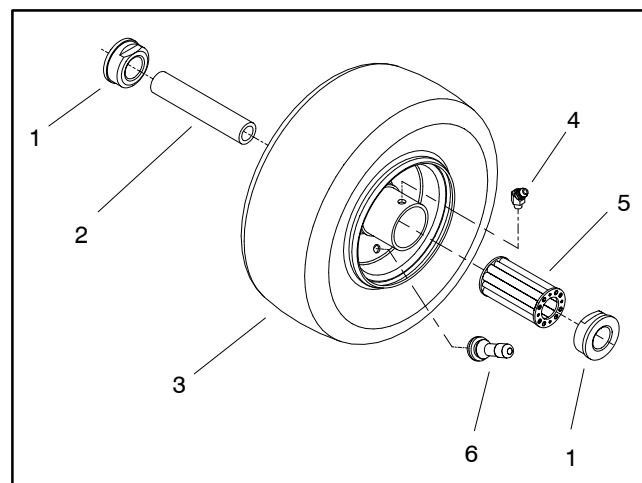

Figure 5
A. Remove lock nut (item 5) and cap screw (item 3) that secure wheel to castor fork.
C. Remove front wheel bushing and bearings as needed (Fig. 5).
A. Remove e-ring (item 6) and washer (item 7) that secure wheel to transaxle shaft.
C. Locate and retrieve square key (item 9).
A. If front wheel bushing and bearings were removed, install bushing and bearings to wheel assembly (Fig. 5).
C. Install cap screw (item 3) and lock nut (item 5) to secure wheel to castor fork.
A. Apply antiseize lubricant to transaxle shaft. Position square key (item 9) in transaxle slot.
C. Secure wheel to transaxle shaft with washer (item 7) and e-ring (item 6).